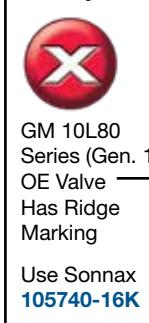

Figure 1
**NOTE:** Identify the valve you are using by the ridge marking on the stem (Figure 1).